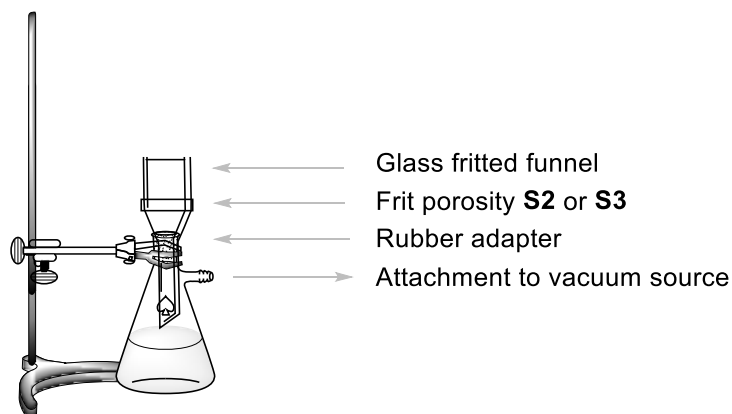

Figure 3. Setup for suction filtration.
2. Set up a vacuum filtration apparatus (Figure 3) using a glass fritted funnel with porosity **S2** (with white label) and secure it to a laboratory stand with a small clamp. Connect the suction flask to the vacuum source. Pour the suspension of product **B** (step No. IV.1) into the fritted funnel, let the solid settle down, and then open the vacuum valve. *Caution:* notify the lab assistant before and after handling the valve! Wash the solid twice with 6 cm³ of deionised water, until the pH of the dropping filtrate is about 6 (check with pH indicator strips). Let air suck through the precipitate for 5 minutes to pre-dry the product. Disconnect the vacuum source. Use a spatula to transfer the white product B to a glass vial labelled **Student code B** and leave it uncovered on the bench to air-dry. Discard the filtrate to the sink drain and wash the suction flask.